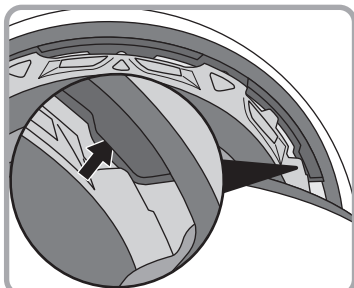

Fig. 1
- ① Hold the helmet as shown in Fig.1 and then remove the interlining at the temple area on the right and left, individually.
- ① Insert the interlining at the temple areas as shown in Fig. 1.